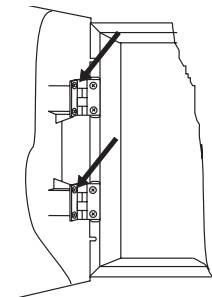
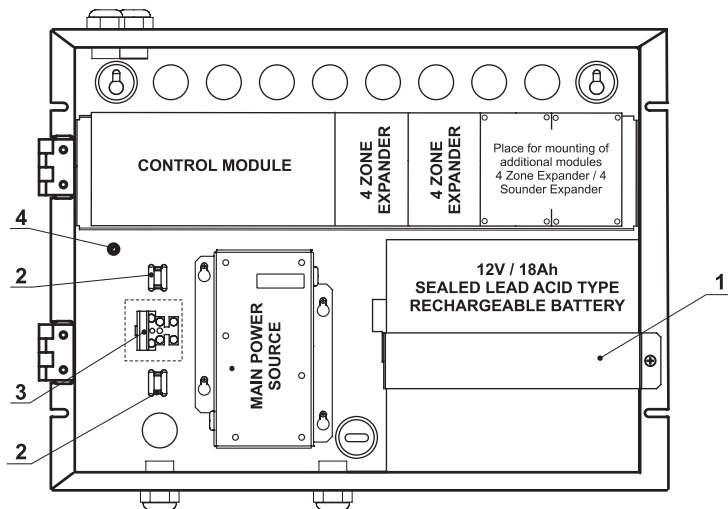

Figure 3.
Figure 9.
- Remove the front panel by undoing the screws of the hinges - Figure 3. (**NB.** *The screws at the metal bottom can also be undone. What is special here is that there are two plastic pads under the every hinge. These pads need to be placed back again under the hinges when mounting the front panel.*)
- Perform an exposed or flushed mounting (option) - see items 3.1 and 3.2.
- Position the battery and secure it with the clamp - Figure 9, Position 1.